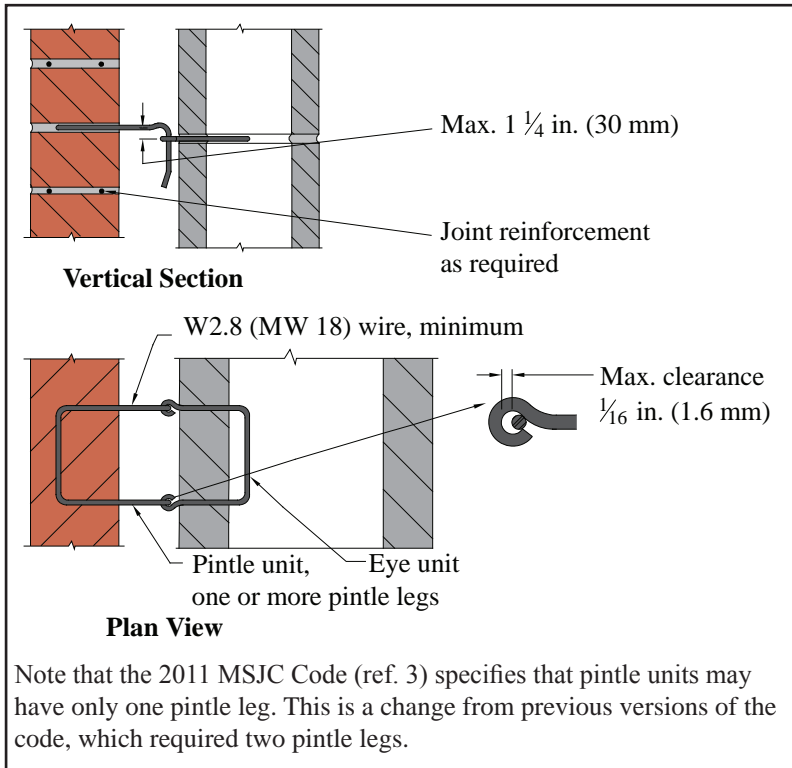

Figure 3—Adjustable Anchors
Veneers may generally be anchored to the backing using sheet metal anchors, wire anchors, joint reinforcement or adjustable anchors, although building codes may restrict the use of some anchors. Corrugated sheet metal anchors are permitted with masonry veneer attached to wood backing only. Requirements for the most common anchor types are summarized in Figures 3 through 5 and Table 1. As an alternative, adjustable anchors of equivalent strength and stiffness may be used. Cavity drips are not permitted. See TEK 12-1B, Anchors and Ties for Masonry, (ref. 9) for detailed information on anchor materials and requirements.